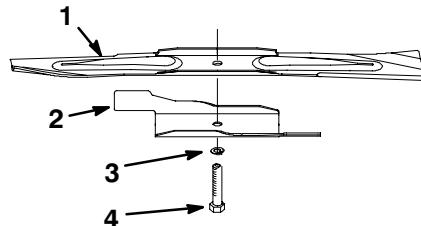

Figure 24
2. Remove the blade bolt, the lockwasher, the accelerator, and the blade (Fig. 24).